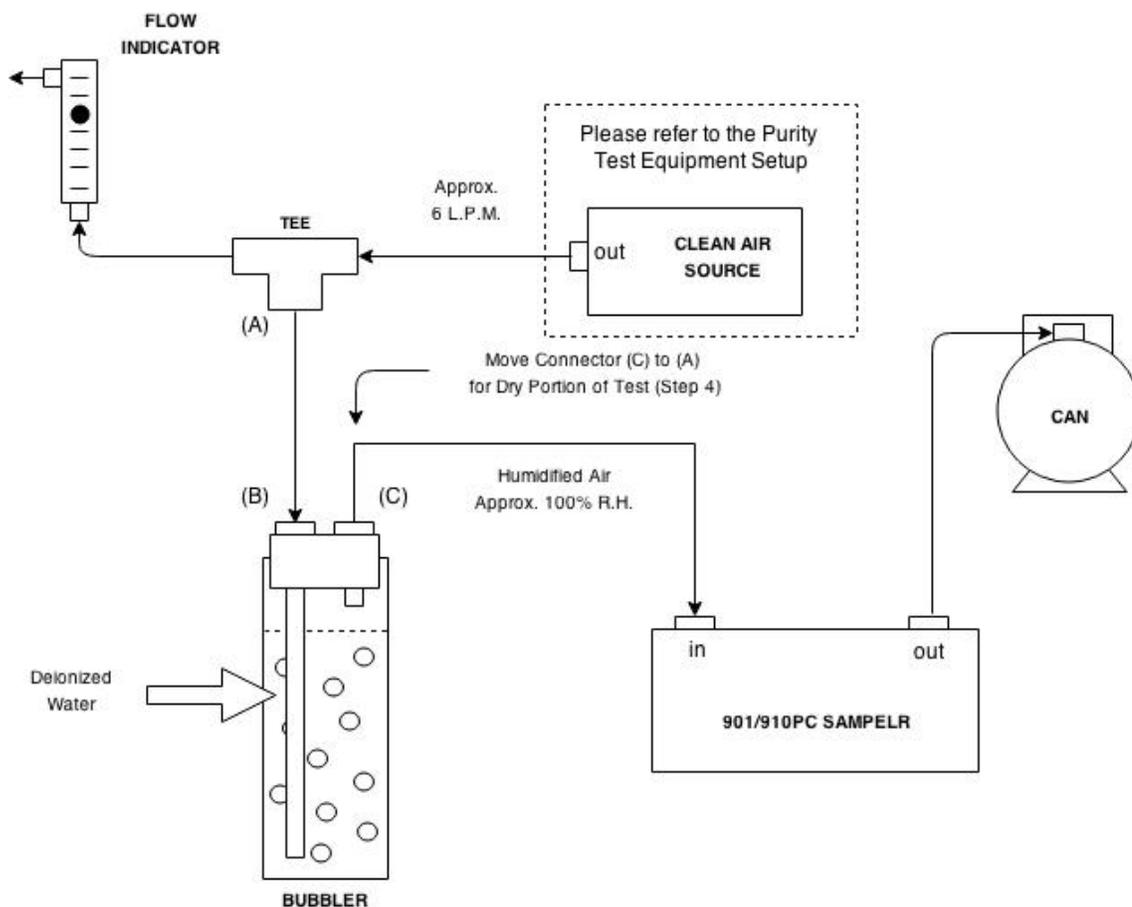

Figure 7.3 Sampler Cleaning w/ Flow Schematic Diagram
1. Follow the flow schematic diagram (figure 7.3), connect the bubbler, flow meter, connection tee and clean air source using Teflon tubing. Fill the bubbler approximately 3/4 full with deionized water and secure to instrument rack. Connect bubbler inlet (B) to the connection tee output (A); this line should end approximately 1" from the bottom of the bubbler. Then, connect bubbler output (C) to the sample input of the 901/910PC sampler. (See diagram for complete flow schematic).
4. After the 72 hours, disconnect the bubbler output (C) and connect the sampler inlet directly to the connection tee output (A).